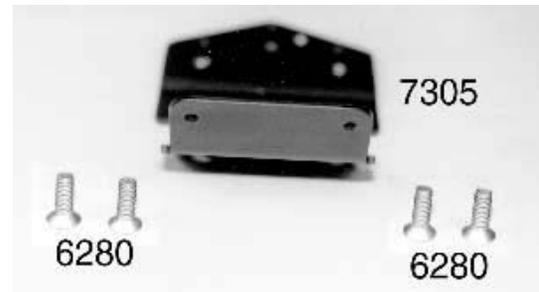

Fig. 23
□ **Figs. 23, 24 & 25** (1) Open bag #7-4 and remove the #7305 black aluminum chassis nose plate. (2) Back in bag #7-1 you will find four #6280 8-32 x 1/2" aluminum FHMScrews. (3) Using a #2 Phillips screwdriver we are going to install the front bulkhead assembly to the #7305 nose plate. Insert one of the #6280 FHMScrews through the bottom of the nose plate and line it up with the appropriate hole in the bottom of the front bulkhead (see fig. 24). Do not tighten the screw all the way down. (4) Now install the other three #6280 FHMScrews the same way and then tighten down all four screws. DO NOT OVERTIGHTEN, otherwise you will strip out the nylon. When you are done your front end will look like fig. 25.